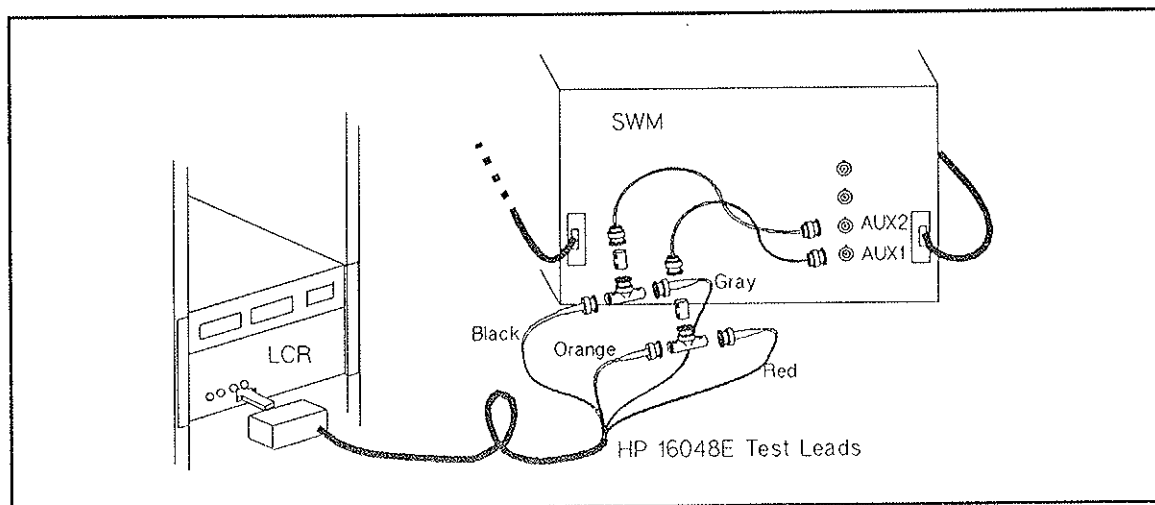

Figure 2-42. Cable Connections for the HP 4274A LCR
2. Be sure the test leads are connected to the AUX1 and AUX2 terminals of the SWM as shown in Figure 2-42.
8. Remove the BNC f-to-f adapter and reconnect the BNC-T adapters (with the test leads) to the AUX1 and AUX2 terminals of the SWM as shown in Figure 2-42.